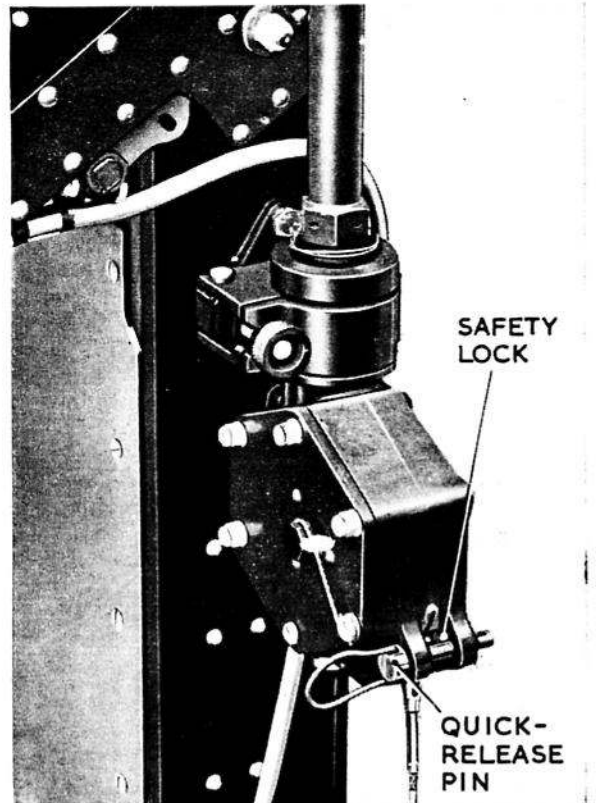

Fig. 3. Rendering the drogue gun safe
3. (1) Disconnect the static line by withdrawing the quick-release pin. Render the gun safe by inserting the pin in the safety lock (fig. 3).